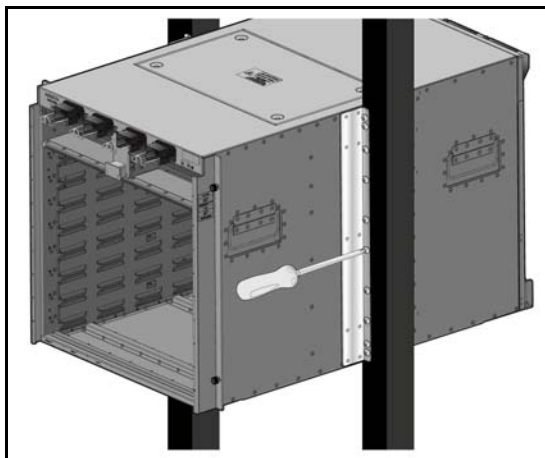

Figure 3: Attaching Flanges to the Rack Post
Step 4 Attach the bracket flanges to the rack posts (Figure 3). Space the screws evenly along the flange.